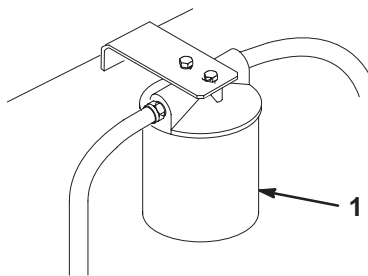

Figure 41
3. Place a drain pan under the filter, remove the old filter, and wipe the filter adapter gasket surface clean (Fig. 41).